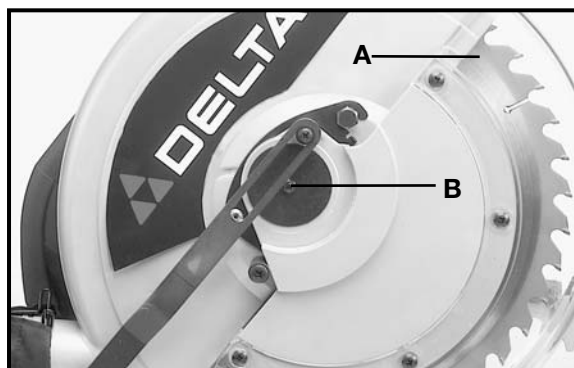

Fig. 30
After an extended period of time the movable blade guard (A) Fig. 30, might become sloppy and move erratically when the cuttinghead is lowered. This can be easily corrected by slightly tightening nut (B) until the lower blade guard (A) moves smoothly.